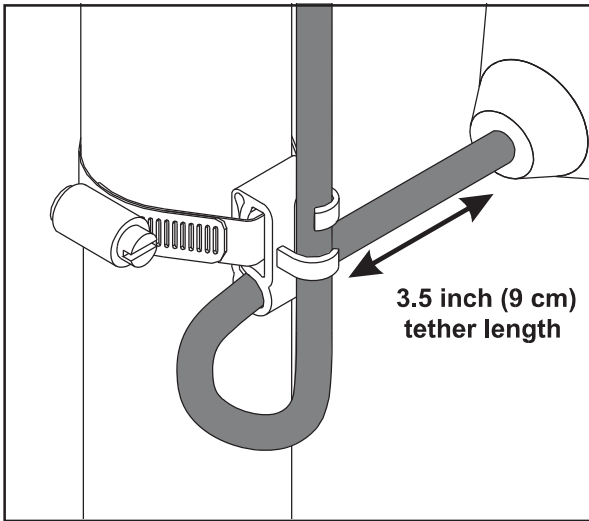

FIGURE 5 - Mounting clamp detail.
4. For mounting clamp installation: place the cord into the clamp as shown in **Figure 5**. Locate the clamp at the desired activation level and secure the clamp to the discharge pipe as shown in **Figure 5**.